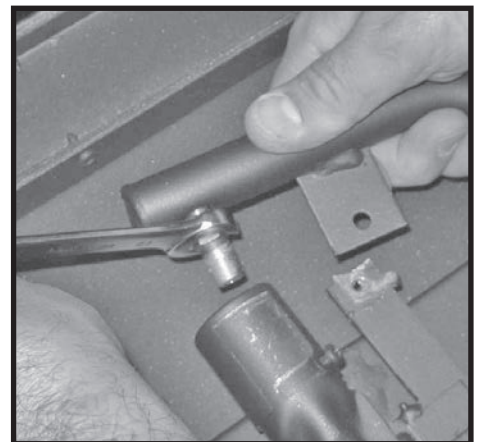

Figure 33: Removing NG orifice.
3. Using a 1/2" wrench, undo and remove the natural gas burner orifice marked #28 (Figure 33).